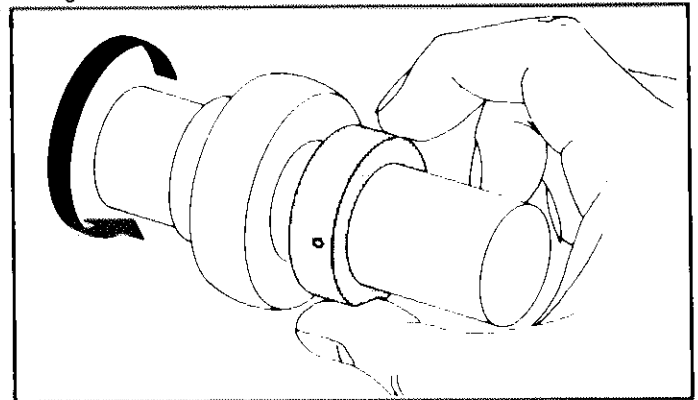

FIGURE 113
- 2 - Press collar lightly against inner ring, then turn collar **in direction of shaft rotation** until engaged. Refer to Figure 113.